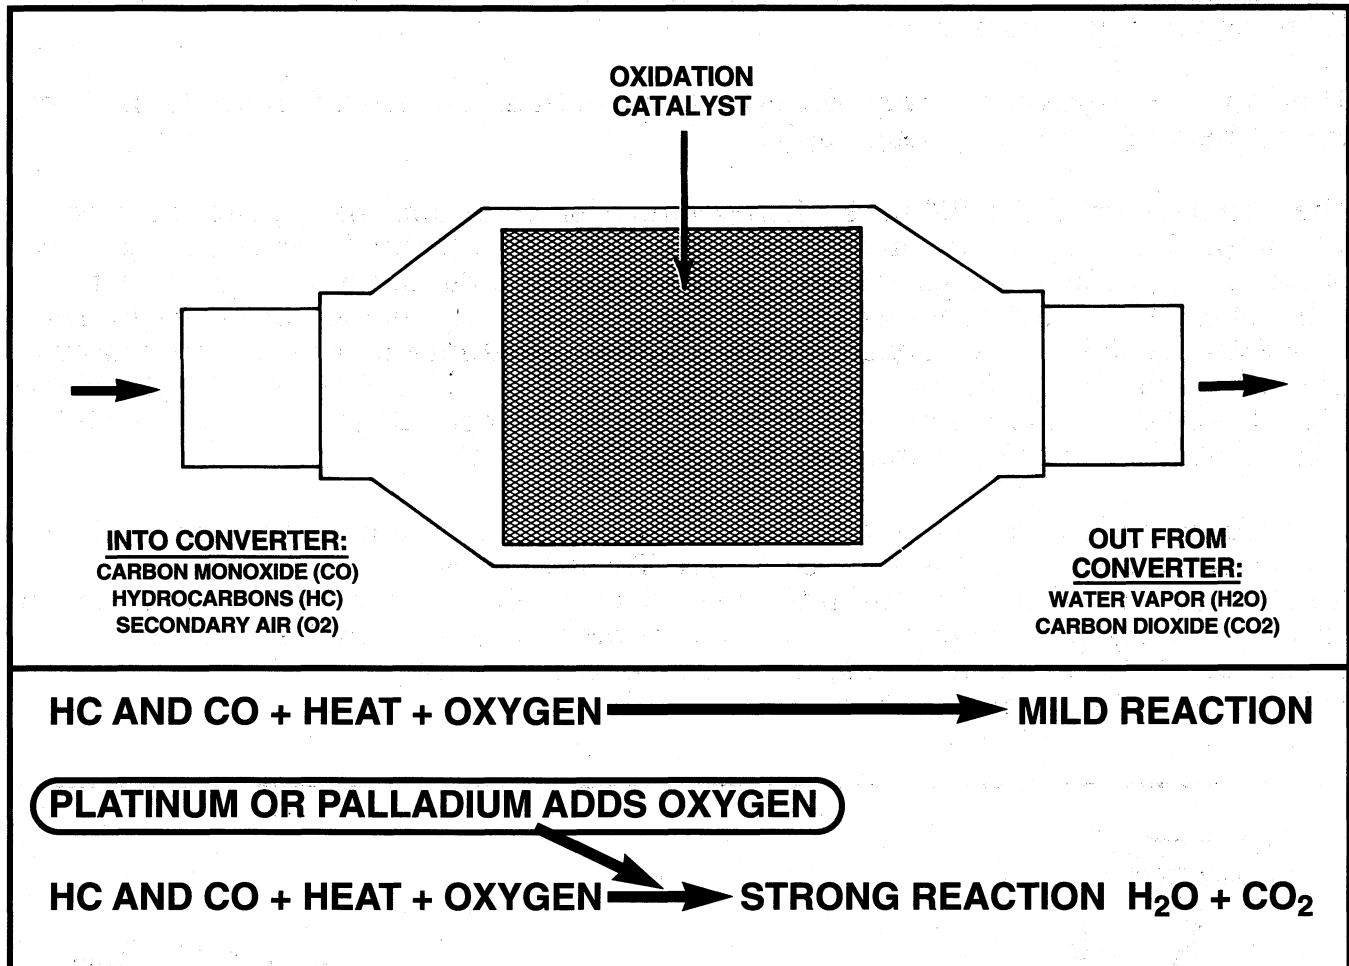

Figure 28 Oxidation Reaction
Oxidation converters were designed specifically to change hydrocarbon (HC) and carbon monoxide (CO) emissions into CO₂ and water vapor. Commonly called "two-way converters", the name refers to the number of pollutants affected by the converter. By supplying a sufficient amount of oxygen to HC and CO in the presence of heat and the right catalytic material (either platinum or palladium), a chemical reaction will occur (fig. 28). That reaction actually breaks the HC and CO bonds and results in the formation of harmless carbon dioxide (CO₂) and water (H₂O).